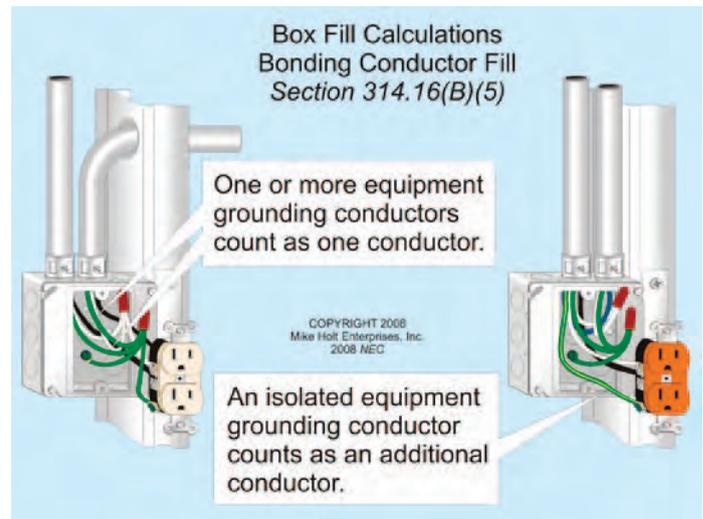

Figure 314-10
(5) Equipment Grounding Conductor Volume. All equipment grounding conductors in a box count as a single conductor volume in accordance with Table 314.16(B), based on the largest equipment grounding conductor that enters the box. Insulated equipment grounding conductors for receptacles having insulated grounding terminals (isolated ground receptacles) [250.146(D)] count as a single conductor volume in accordance with Table 314.16(B). **Figure 314-10**